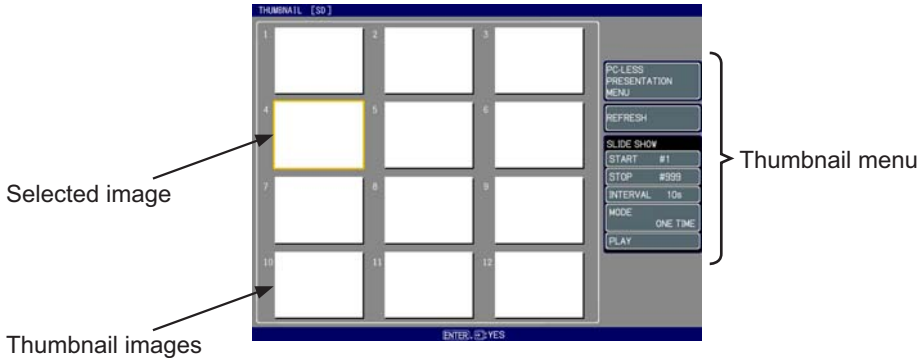

Fig. 5.2 Thumbnail Mode
- 7) Use the ▲/▼ cursor buttons to select the THUMBNAIL, and push the ► cursor button to perform it. The picture in Fig. 5.2 will be on screen.
- 6) Select the THUMBNAIL and click it. The picture in Fig. 5.2 will be on screen.